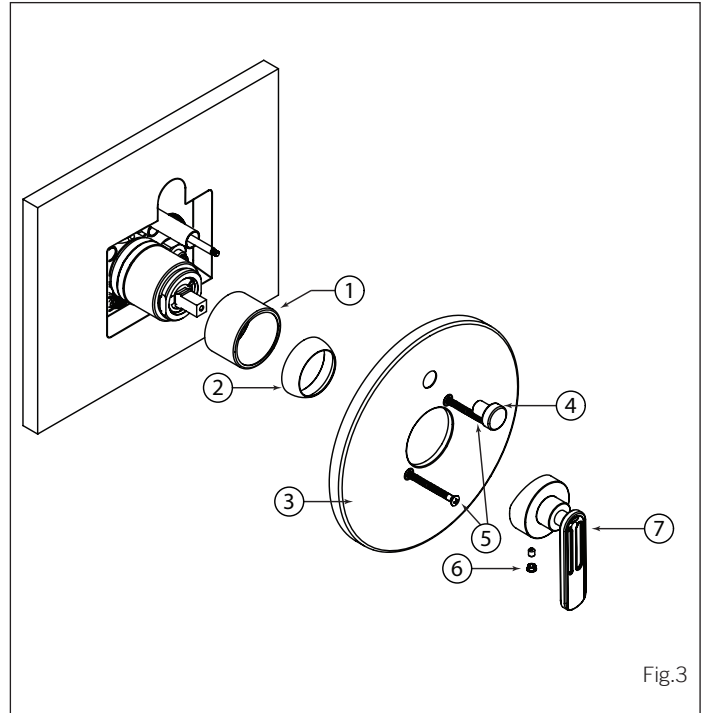

Fig.3
Insert the decorative sleeve (1) onto the cartridge holder (See Fig.3), screw the dome cap (2) onto the valve body. Slide in trim around the valve body and press it firmly against the wall.
Insérer l'anneau décoratif (1) autour du manchon (Voir Fig .3). Ensuite, visser le capuchon en dôme (2) sur la valve.